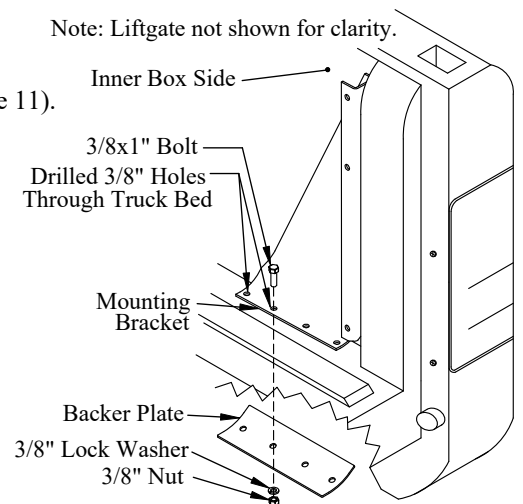

Figure 11: Mounting bracket and backer plate.
Choose two of the four holes provided with no obstructions on the underside (Figure 11).
- (2) 3/8"x1" hex head bolts on the top-side (Figure 11).
- (1) backer plate, (2) lock washers, and (2) hex nuts on the under-side (Figure 11).